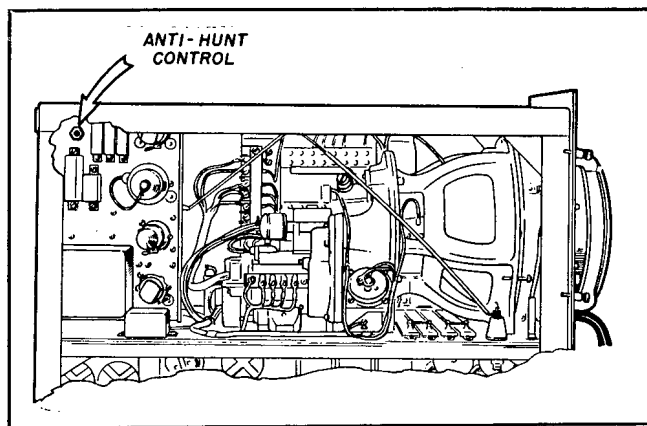

Figure 7-115. Anti-Hunt Control in PPI Indicator
(6) Adjust the anti-hunt potentiometer, R-590, for minimum amplitude on the oscilloscope. Lock the control. This control is shown in Fig. 7-115.
(7) Connect the test oscilloscope between test point J-528 and ground.